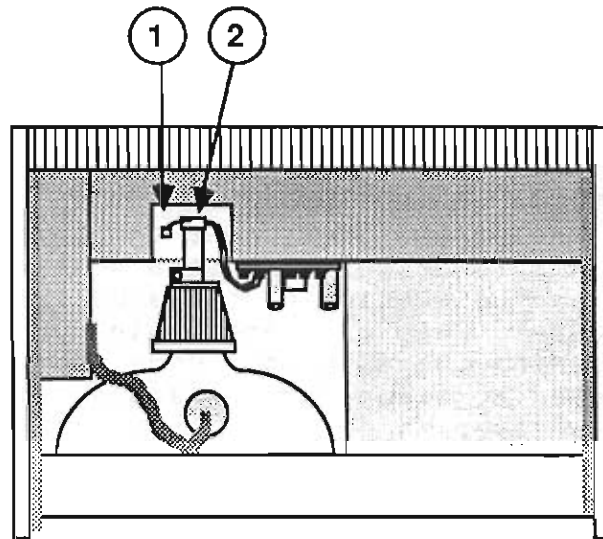

FIGURE 5A
The CRT cup (Figure 5A, #1) is the part of the chassis that surrounds the CRT neck. In the following steps, you will remove the cables, screws, and ground wire that are attached to the CRT cup. The ground wire (the single white wire that runs from the yoke to the contact on the chassis) is difficult to remove safely. You will do that last so that you can orient the CRT cup away from the CRT neck.
4. Remove the round plug from the socket at the end of the CRT neck (Figure 5A, #2). (If the plastic guide comes off the tube with the plug, replace it.)
7. **For unmodified Lisa 2/Macintosh XL (Figure 5A):**